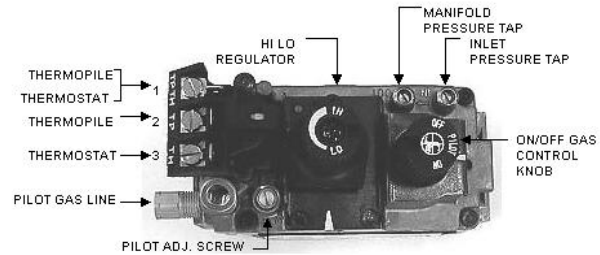

FIGURE 13: Gas Valve
5. Turn Gas Cock Dial Counterclockwise to "PILOT" position [See FIGURE 13].